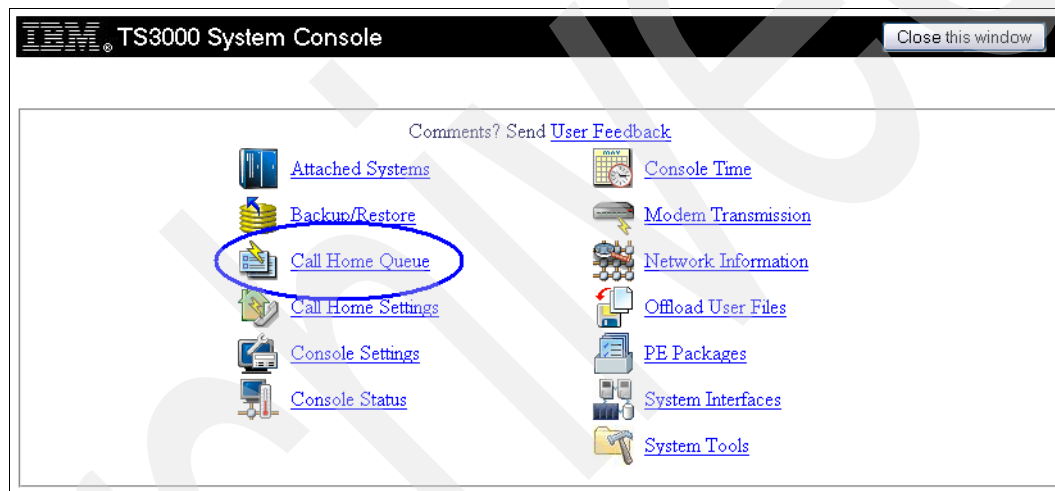

Figure 6-14 TSSC console configuration
4. From the menu, select the icon for **Call Home Queue**. See Figure 6-14.